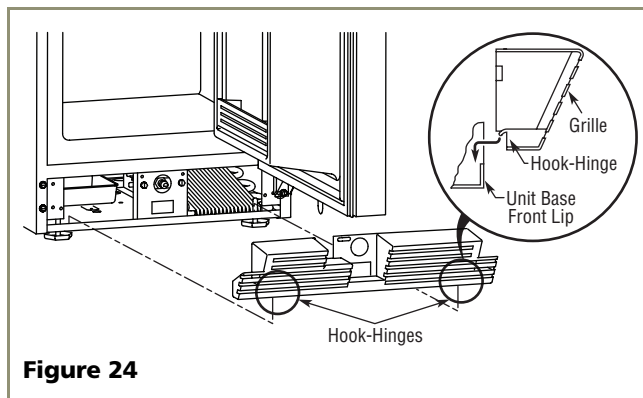

Figure 24
4. Place the two hook-hinges (located on the rear bottom side of the grille) onto the front lip of the unit base. Swing the grille up into position, aligning the grille screw hole on the grille to the grille screw hole on the cabinet. See **Figure 24**.